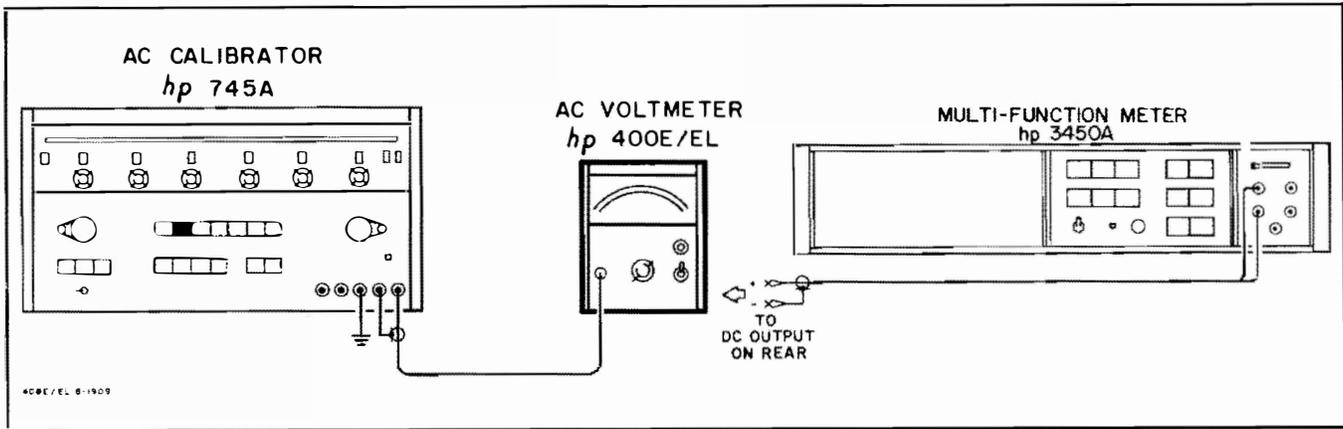

Figure 5-1. Accuracy Test Setup
5-12. The test setup in Figure 5-1 uses the 745A AC Calibrator System. This calibrator can produce any voltage level from 0.1mV to 100 volts in a seven digit readout for frequencies from 10Hz to 110kHz. The accuracy is from 0.022% to 0.205%. The 746A Amplifier can be used for voltages above 100 volts with the same accuracy.
- b. Connect the test setup as shown in Figure 5-1. Set the 745A SENSE switch to LOCAL or if more accuracy is desired place the SENSE switch to REMOTE and connect the sense terminals to the input of the 400E/EL.